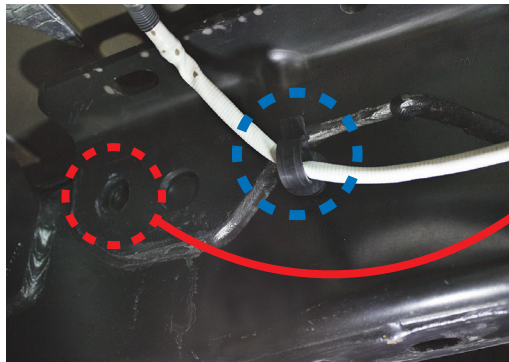

fig. D.26
1. Locate the clip (blue circle) that holds the wiring harness for the O₂ sensor. Discard the clip, as it will no longer be needed (Fig. D.26).